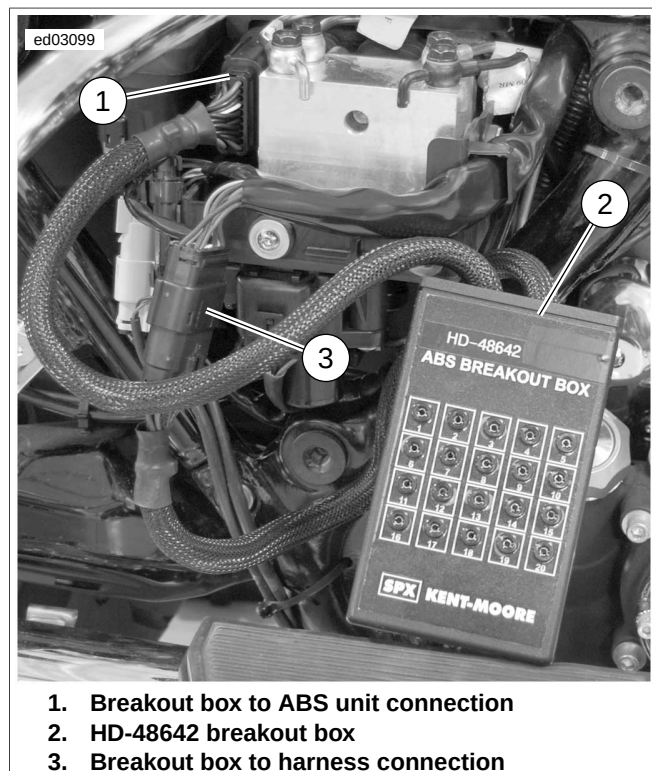

Figure 1-37. Typical HD-48642 Connection
3. See Figure 1-37. Connect ABS BREAKOUT BOX (Part No. HD-48642) to connectors.